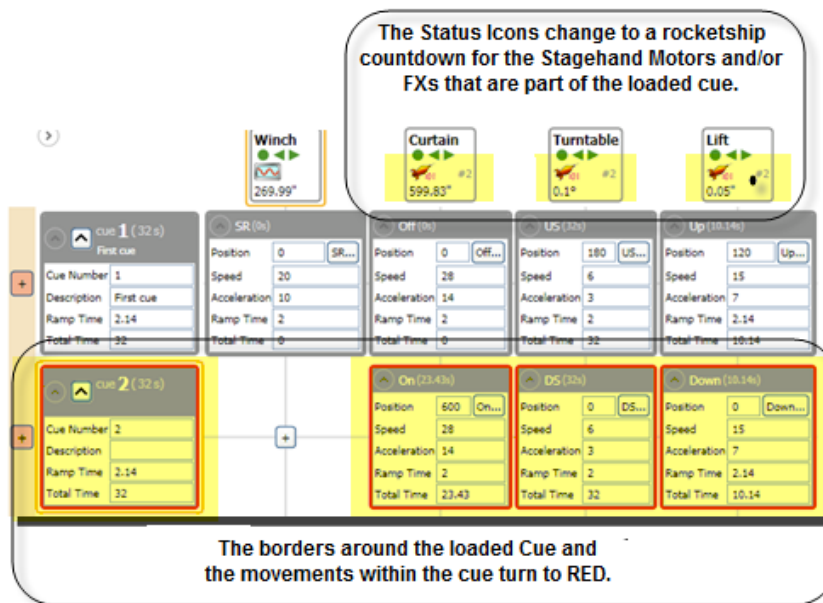

Figure 324
1. In the **Cue Grid**, the borders around the ready cue and ready movements change to red and the Stagehand column headers display a rocket ship countdown icon (Figure 324). *For a complete list of status icons and their meanings, see the "Motor Status" section on page 72 and the "FX Status" section on page 112.*